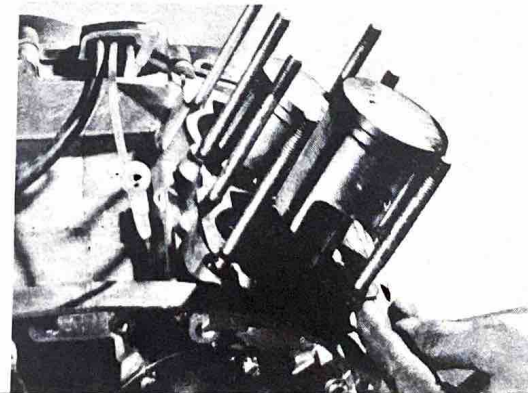

Fig. 4-3-4
- 3) Replace the cylinder packing. (Fig. 4-3-4)